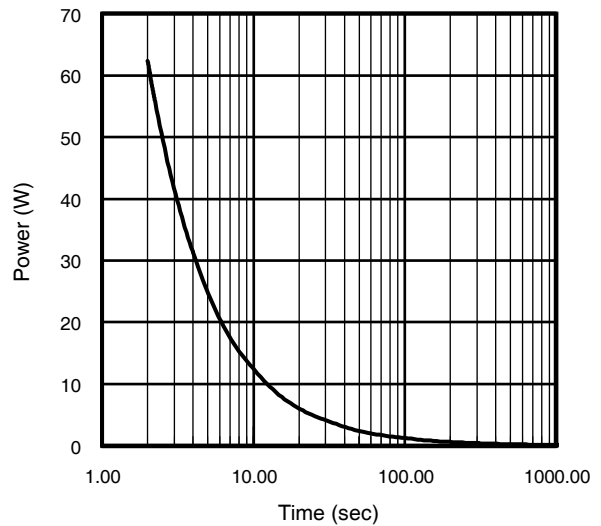

Fig 15. Typical Power Vs. Time
Notes on Repetitive Avalanche Curves , Figures 15, 16:
7. ΔT = Allowable rise in junction temperature, not to exceed T_{jmax} (assumed as 25°C in Figure 15, 16).
**Notes on Repetitive Avalanche Curves , Figures 15, 16:
7. ΔT = Allowable rise in junction temperature, not to exceed T_{jmax} (assumed as $25^\circ C$ in Figure 15, 16).